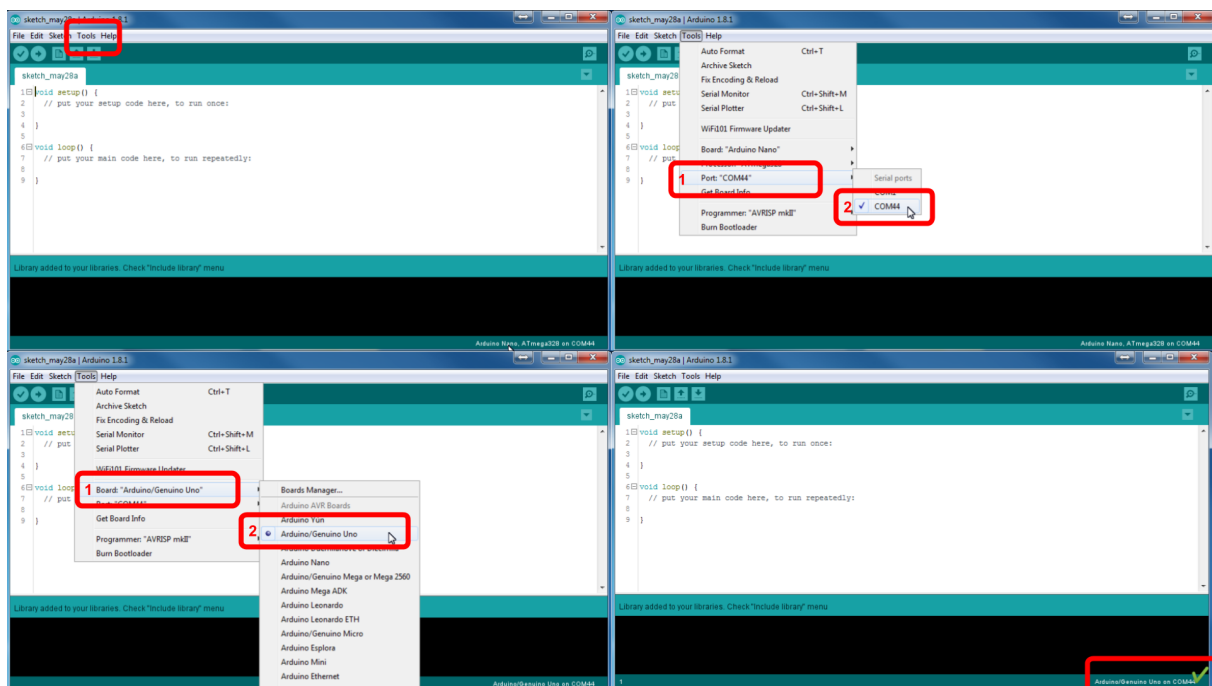

Figure 1: Arduino basic setup.
3. Make shure that you will set the proper settings (see fig. 1). From the menu choose: